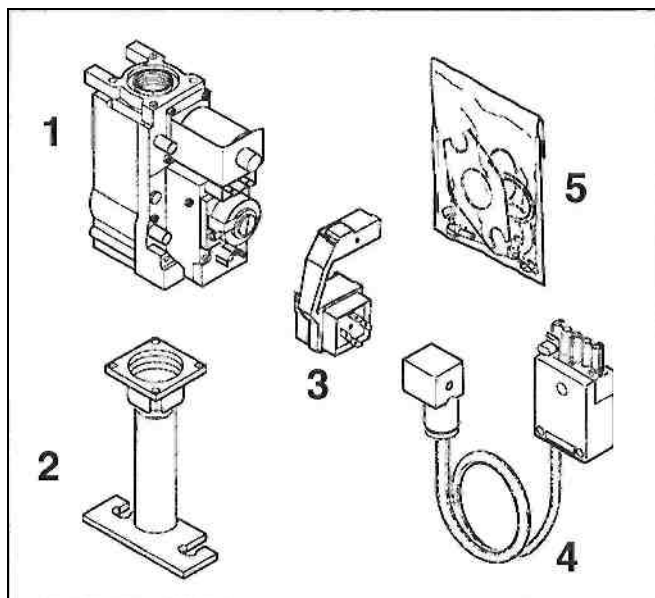
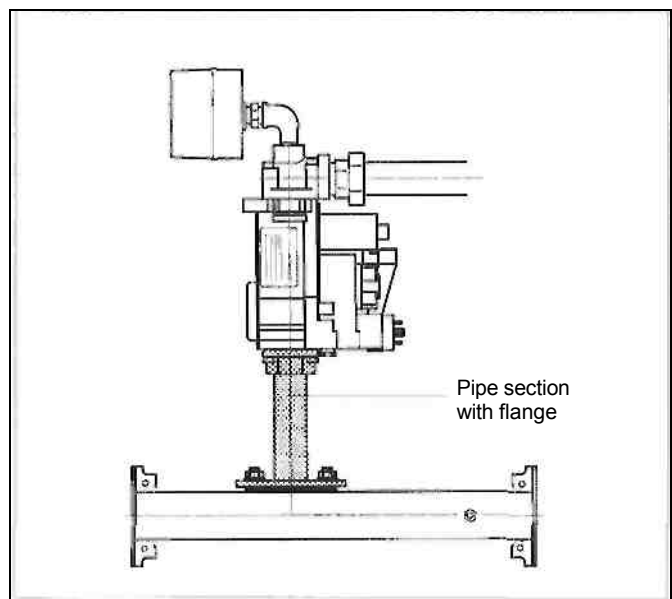

Fig. 1: Set 1
Fig. 5: G224 L as example with VR 4605 (Set 1); previously VR 4905
- Install pipe section with flange (Fig. 1, Pos. 2) between Gas valve and gas distributor bar (Fig. 5).